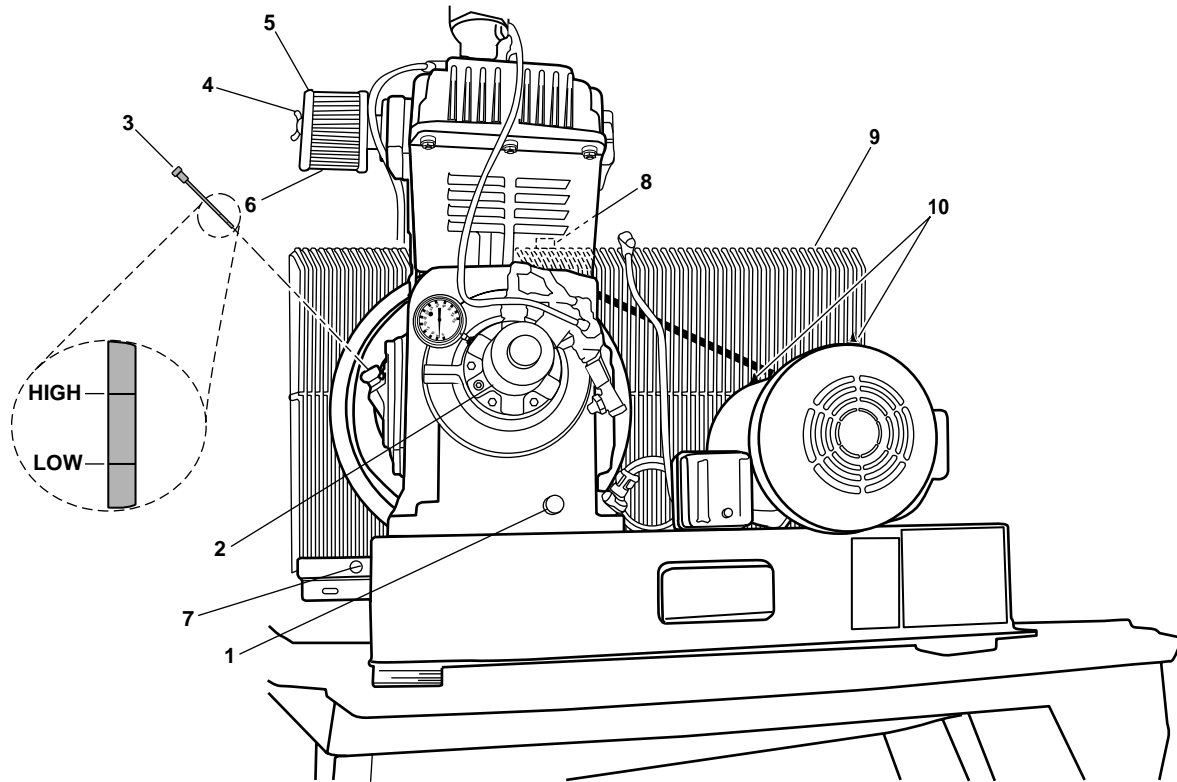

Figure 1. Air Compressor
1. Position a suitable drain pan beneath the compressor oil drain plug (figure 1, item 1).
2. Remove the compressor oil drain plug (figure 1, item 1), and permit the compressor oil to drain into the drain pan. Permit the oil to drain until all oil has been drained.
3. Remove the oil filter (figure 1, item 2), and permit its contents to drain into the drain pan.
1. Install the compressor oil drain plug (figure 1, item 1).
4. Remove the compressor dipstick (figure 1, item 3), and fill the compressor with clean oil until the oil registers slightly above the HIGH mark on the dipstick. Approximate capacity is 4.75 quarts (4.5 liters). Refer to table 1 for the proper oil.
5. Install the dipstick (figure 1, item 3).